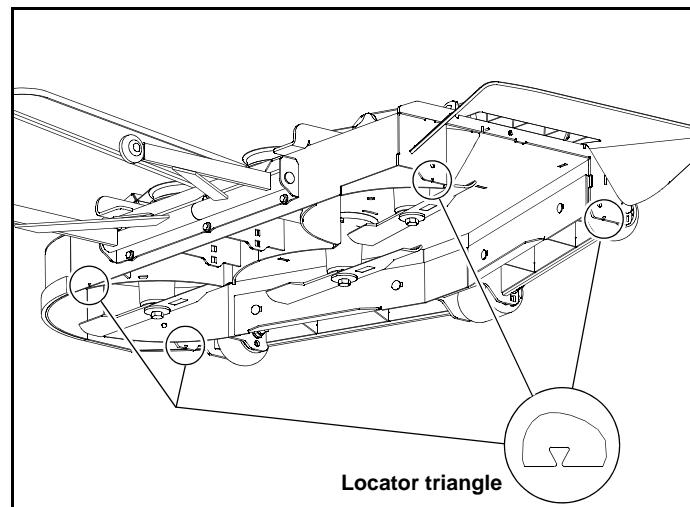

Figure 6-1
- VX4 Side Discharge Decks** – Place 3" high deck support blocks (two stacked 2" x 4" blocks can be used to create a 3" [76.2mm] high support) at the four corners of the deck marked with the locator triangle as shown. Figure 6-1